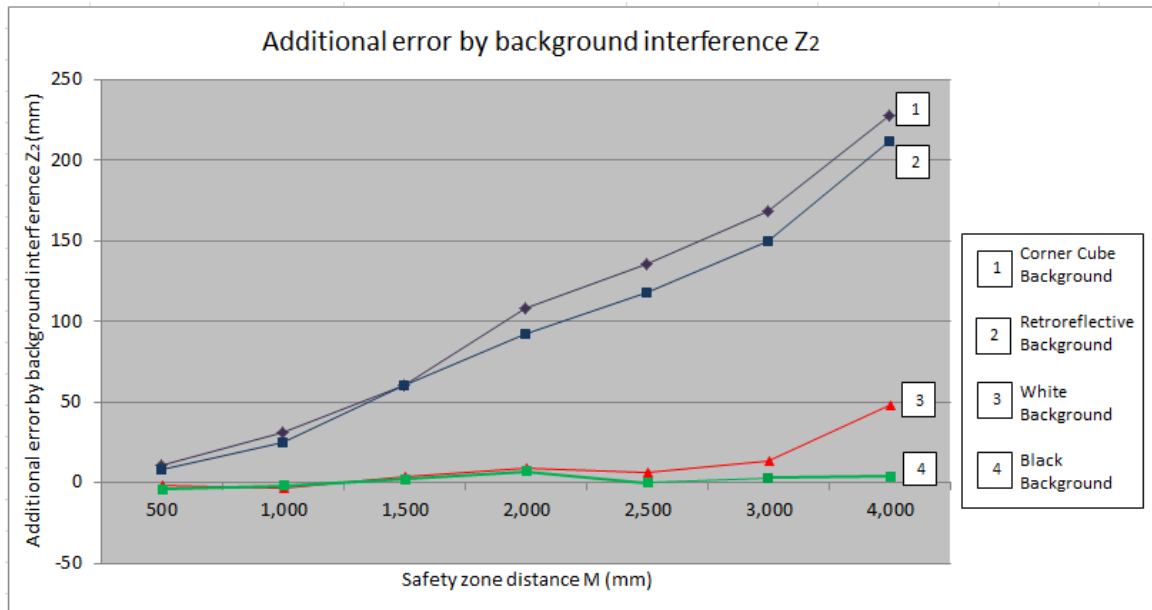

Fig. 7-3 Additional error by background influence
1. Use Fig. 7-3 to calculate the additional error Z_2 for the safety zone distance M .
3. If the dimension above satisfies the condition (1) or (2), add Z_1 and Z_2 to the value for the safety zone range. If neither condition is satisfied, add Z_1 without adding Z_2 .